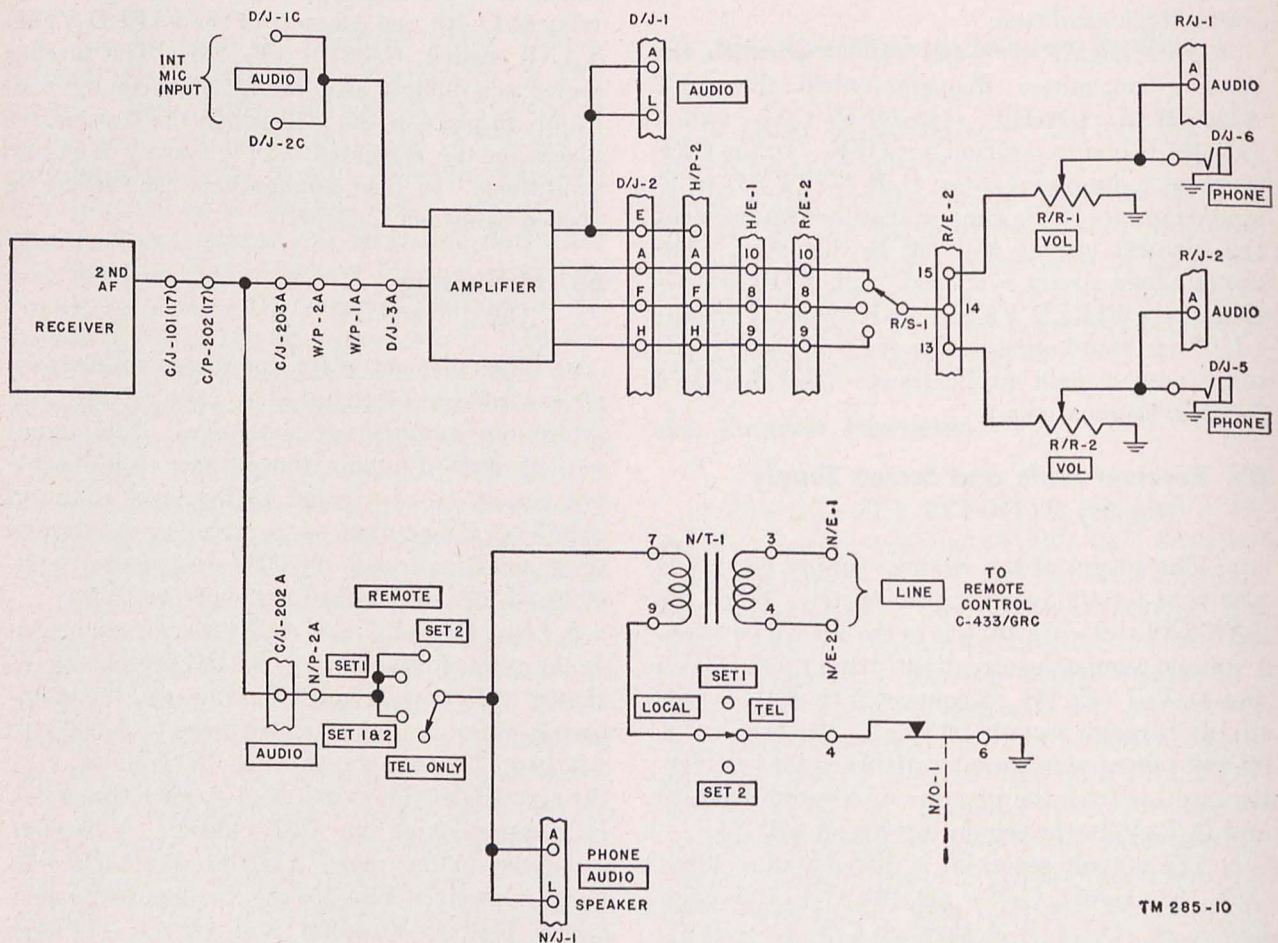

Figure 36. Monitoring circuit.
f. When Control Group AN/GRA-6 is not connected to the amplifier (fig. 36), a headset, loudspeaker, or chest set (with headset-microphone) may be connected to the panel AUDIO receptacle D/J-1 for monitoring. Both received signals and interphone signals (par. 67) will be present at approximately equal levels at this receptacle.
- (1) The function of the receiver is to accept f-m carrier signals and to convert them by a double conversion process and by means of an f-m discriminator into the originally transmitted audio signals. The audio signals are then applied to an external headset, an earpiece of a handset, audio amplifier, and/or a telephone line. (Monitoring circuits are shown in figure 36.)